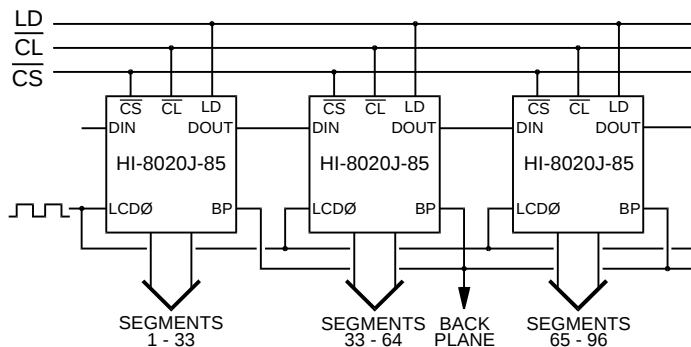

Figure 2
The backplane output functions in 1 of 2 modes; externally driven or self-oscillating. When the LCD $\emptyset$ input is externally driven with the LCD $\emptyset$ OPT input open circuit (Figure 2), the backplane output will be in-phase with LCD $\emptyset$. Utilizing the self-oscillating mode, inputs LCD $\emptyset$ and LCD $\emptyset$ OPT are tied together and connected to an RC circuit (Figure 3). A 150K Ω resistor with a 470pF capacitor generates an approximate backplane frequency of 100Hz. The LCD $\emptyset$ /LCD $\emptyset$ OPT oscillator frequency is divided by 256 to determine the backplane output frequency. The resistor value (R) must be at least 30K Ω for proper self-oscillator operation.
For displays having a number of segments greater than 38, two or more of the display drivers may be cascaded together by connecting the serial data output (DOUT) from the first driver, to the serial data input (DIN) of the following driver, etc. (See Figures 2 & 3). Data out (DOUT) will change state